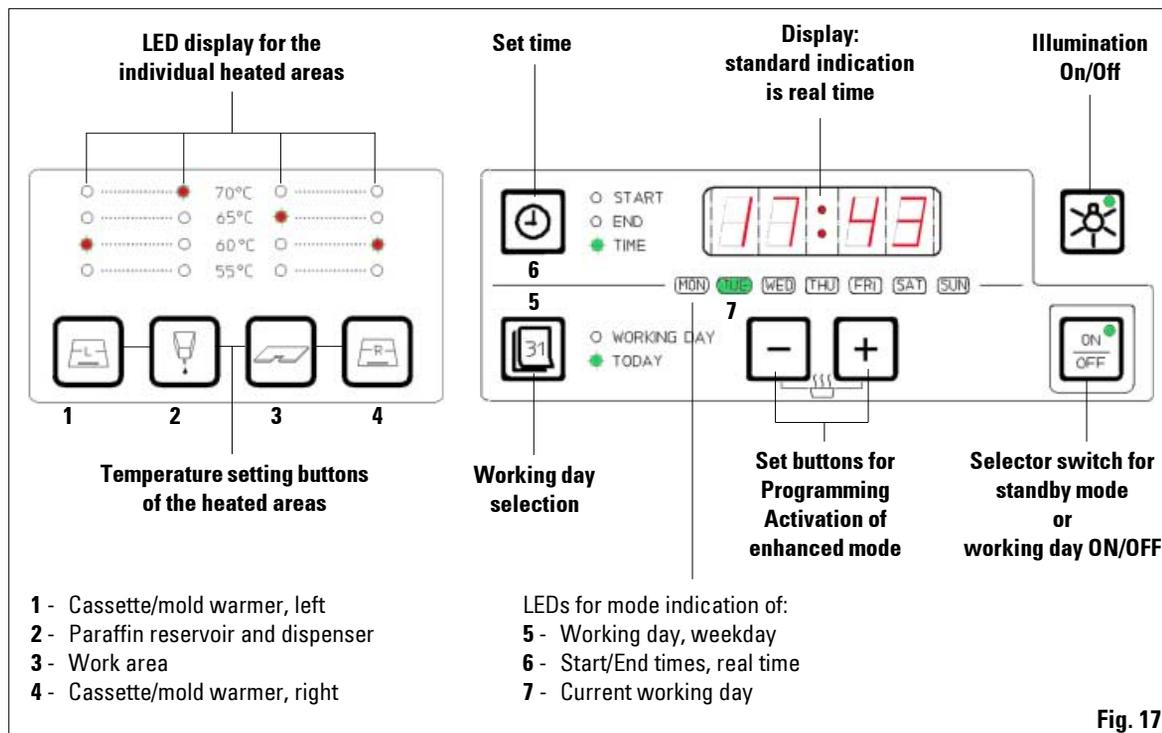

Fig. 17
- The heaters become active and the LEDs indicate the values last set. The LED's which indicate the set temperatures of the heated areas (**1, 3 and 4**, fig. 17) will flash from time to time over the entire length of the heating phase (compare "Indication of the heating intervals"). The LED of the paraffin reservoir (**2**, fig. 17) flashes in time intervals of 1 second each while the intensified heating of the paraffin reservoir is active (4 hours).